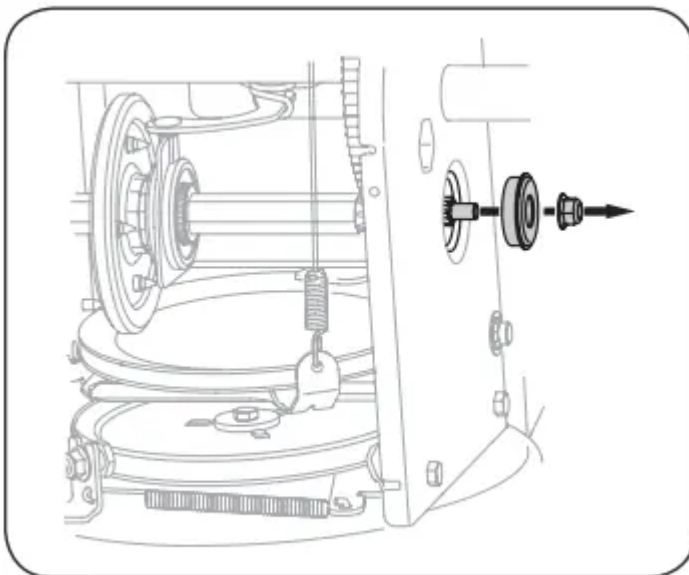

Figure 73
6. Carefully remove the hex nut and washer which secures the hex shaft to the snow blower frame and lightly tap the shaft's end to dislodge the ball bearing from the right side of the frame. See Figure 73. NOTE: Be careful not to damage the threads on the shaft.